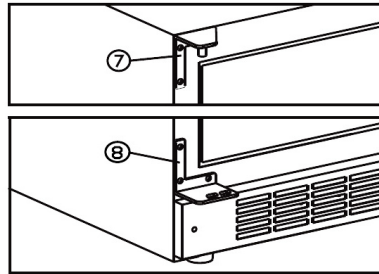

fig. 5.4
- Mount the left top and bottom hinge enclosed (7 + 8). See fig. 5.4
- Remount the door pin previously dismounted (3) in the bottom hinge
- Mount the door in the top hinge (7) towards the door pin (3), tighten the door pin (1)